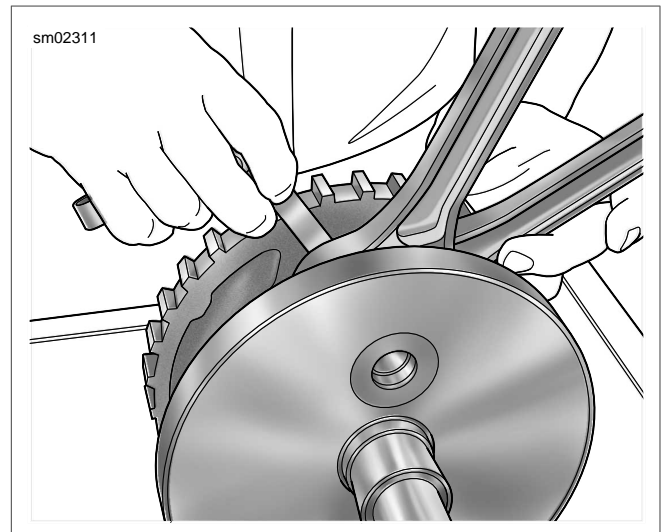

Figure 3-159. Connecting Rod Side Play
3. See Figure 3-159. Check connecting rod side play.